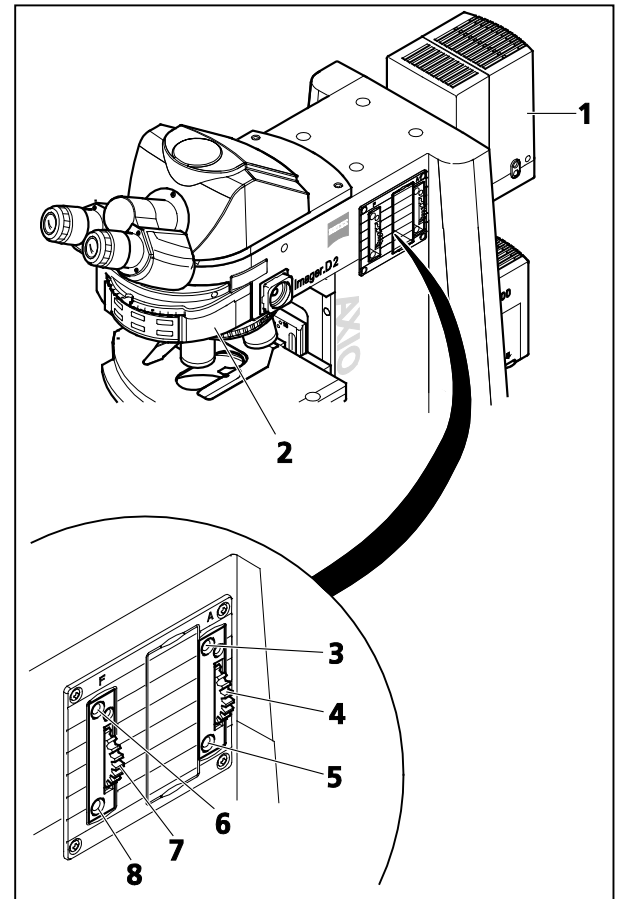

Fig. 211 Epi-fluorescence components on Axio Imager 2
- Switch on the HBO 100 mercury vapor short-arc lamp (Fig. 211/1) and allow it to warm up to operating temperature for about 15 minutes.
- On the reflector turret (Fig. 211/2), select the reflector module FL P&C containing the desired fluorescence filter combination (depending on the desired kind of excitation) and swivel it in.
- Remove one eyepiece from the tube and set the aperture diaphragm with bare eye. To do so, open the aperture diaphragm (Fig. 211/4) until it clears the full exit pupil of the objective. Center the aperture diaphragm to the exit pupil using the two centering screws (Fig. 211/3 and 5), if necessary.
- Reinsert the eyepiece in the tube and close the luminous-field diaphragm (Fig. 211/7) until it is visible in the field of view.
- Use the two centering screws (Fig. 211/6 and 8) to center the luminous-field diaphragm to the edge of the field of view.